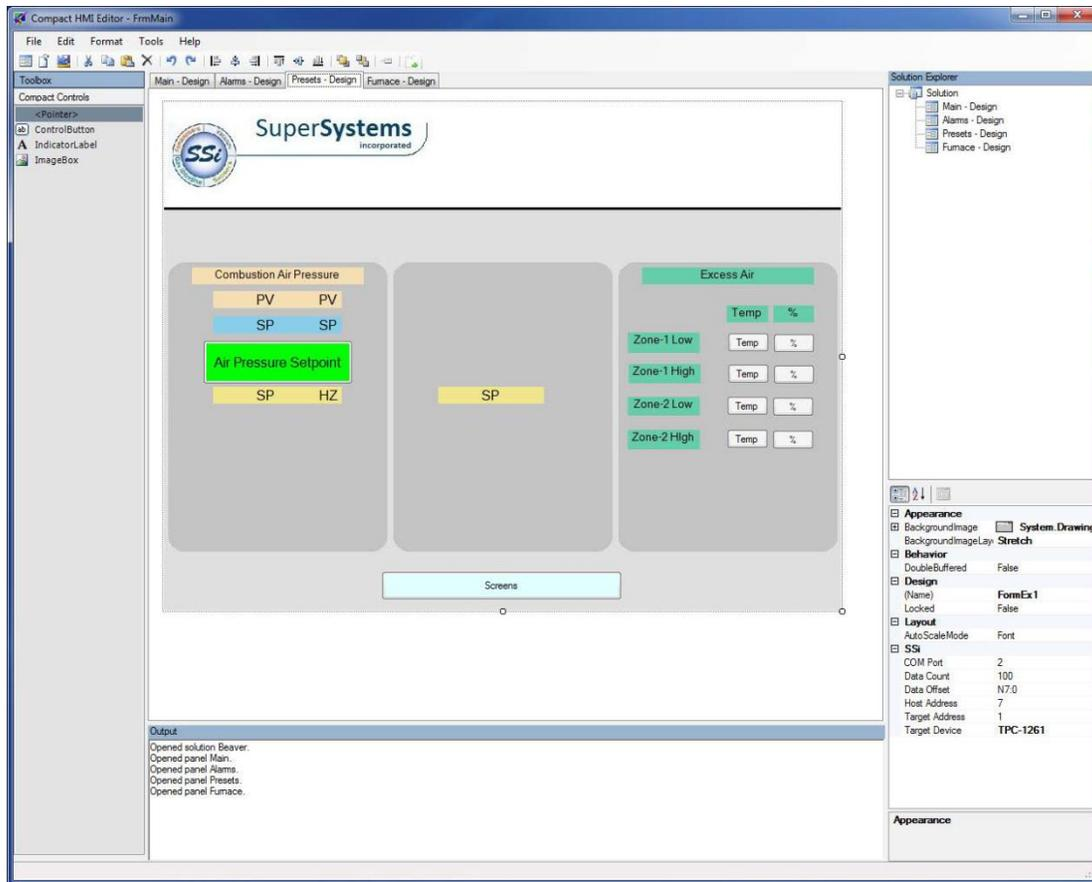
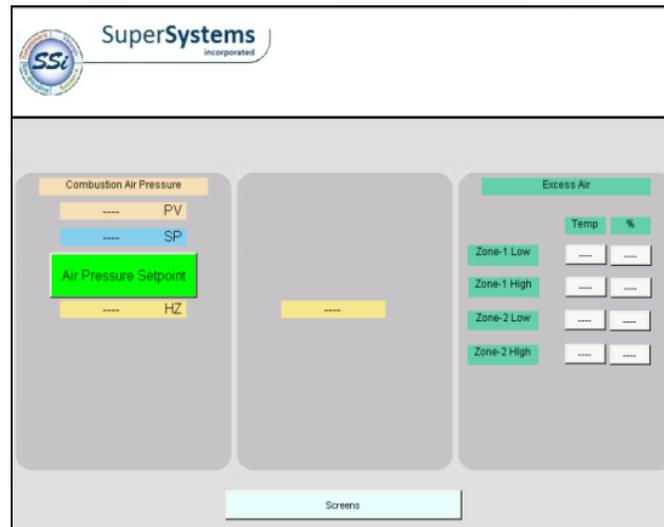

Figure 52 - Presets Panel (Compact HMI Editor)
Figure 53 - Presets Panel(Compact HMI - Touch Screen)
- Presets Panel.** In the example, this Panel is used to enter furnace control presets. The Panel also displays setpoints and process variables (PVs) for parameters such as combustion air pressure. The Compact HMI Editor view for this Panel is shown in Figure 52; the Compact HMI (Touch Screen) view is shown in Figure 53.